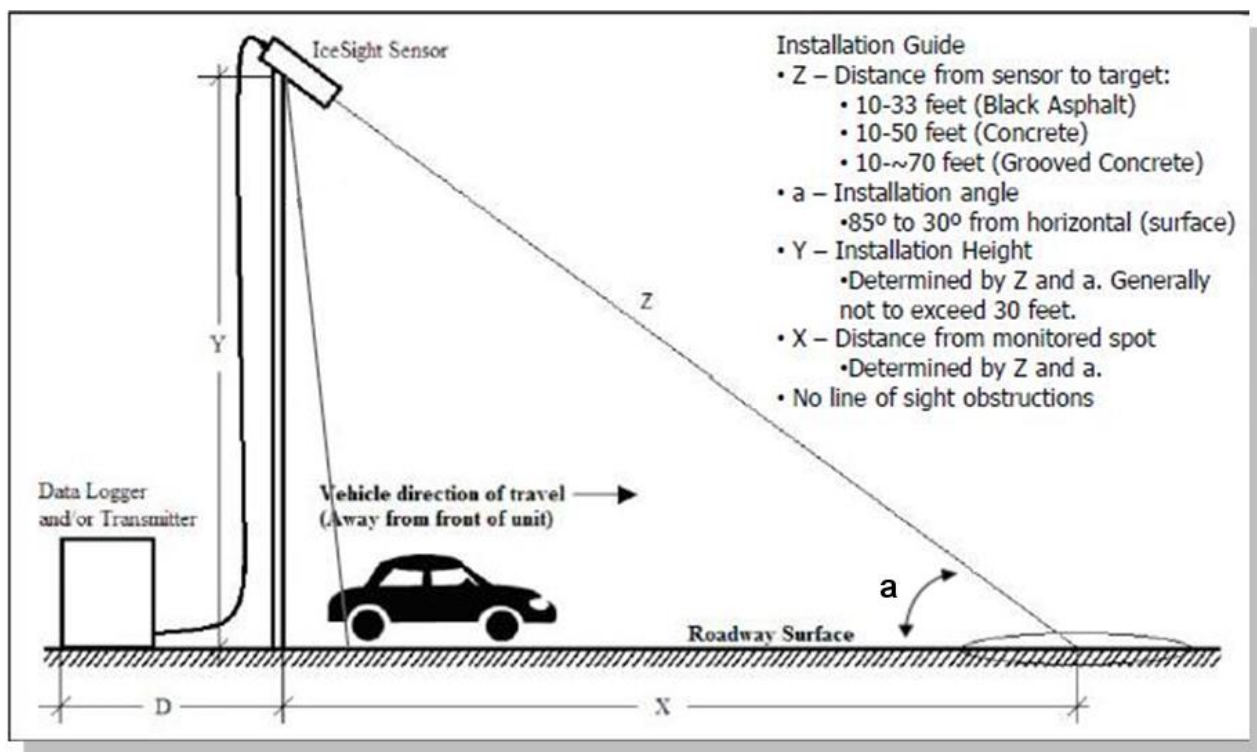

Figure 1 Installation
The FOV angle of the surface condition laser optic sensors is about 1.6° and can also be stated as 0.8° from axis, called the half-angle. Table 3 shown below provides the approximate dimensions of the 1.6° FOV pattern when the IceSight is aimed at a 45° angle, as shown in Figure 1.
Table 3 and Table 4 shown below provide approximate dimensions of the 12° Field of View pattern when the IceSight is aimed at a flat surface at an angle of 90° and 35°, as shown in Figure 1.
5. Using the green spotting laser, choose a spot inside the nearest lane of traffic. The target should be uniform, dry and free of any debris or markings including any cracks and painted lines. An ideal target is a 3' diameter circle of bare concrete or asphalt at no more than 10 meters distance between sensor and roadway. The angle (a) in Figure 1 must be between 85° and 30° with an optimal angle at 45° from horizontal road surface. Adhering to these distances and angles will assure that the sensor can receive enough returned laser signal to make reliable measurements.